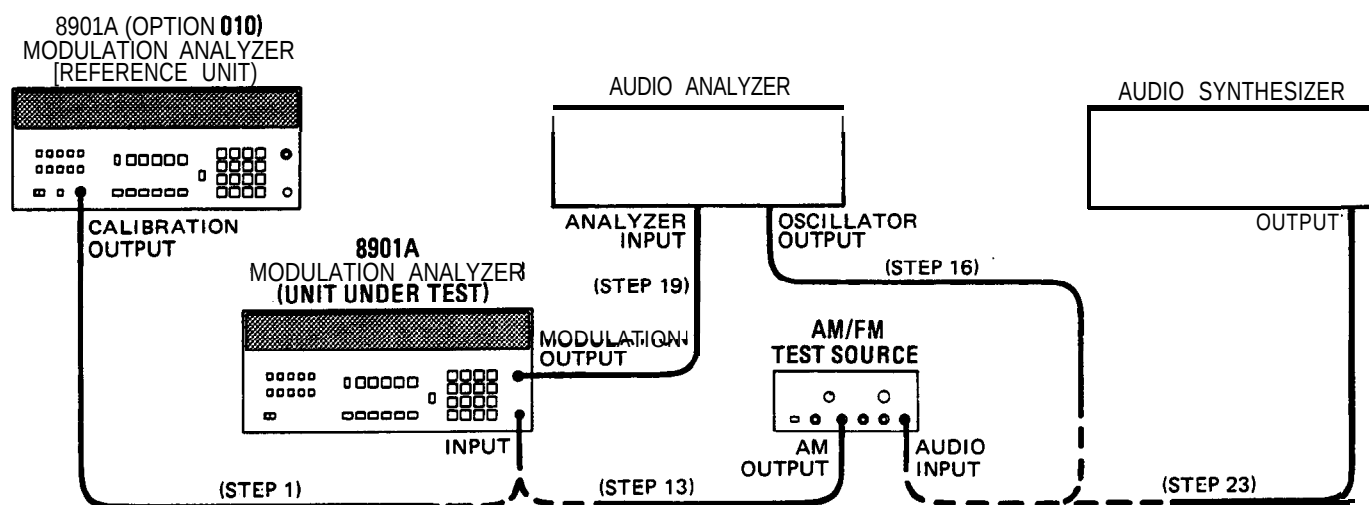

Figure 4-2. AM Performance Test Setup (Using a Second HP 8901A Equipped with Option 010)
13. On the AM/FM test source, set the test mode switch to AM. Connect the test source AM output to the INPUT of the Modulation Analyzer under test. (See figure 4-2. Nothing **should** be connected to the test source's audio input.)
16. Set the audio analyzer's source to 20 **kHz**. Connect its output to the audio input of the AM/FM test source (see figure 4-2).
19. Connect the audio analyzer's input to the MODULATION OUTPUT of the Modulation Analyzer under test. (See figure 4-2.) Set the audio **analyzer** to measure the distortion on the 20 **kHz signal** at the MODULATION OUTPUT with **80 kHz** of low-pass **filtering** (on the audio analyzer). The distortion should be 0.3% or less (-50.5 **dB** or less).
23. Set the audio synthesizer to 1 **kHz** at +5 **dBm**. Connect its output to the audio input of the AM/FM test source. (See figure 4-2.) Fine adjust the audio synthesizer level for a Modulation Analyzer under test display of 80% AM.